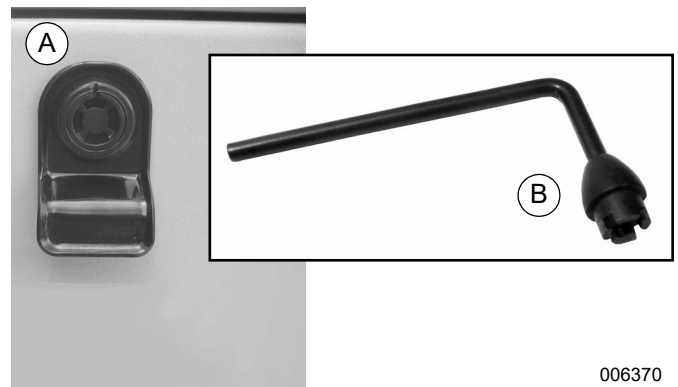

Figure 3-3. Access Panel Key
See Figure 3-3. Insert key (B) into latch (A) and turn counterclockwise one-half turn and raise side access panel using thumb latch.